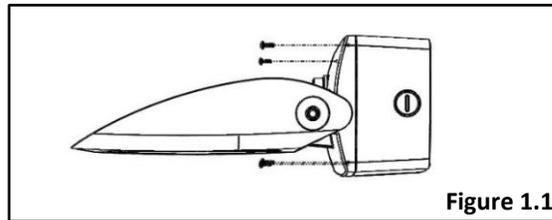

Figure 1.1
1. Detach the back box from the fixture by removing four screws (Fig. 1.1).